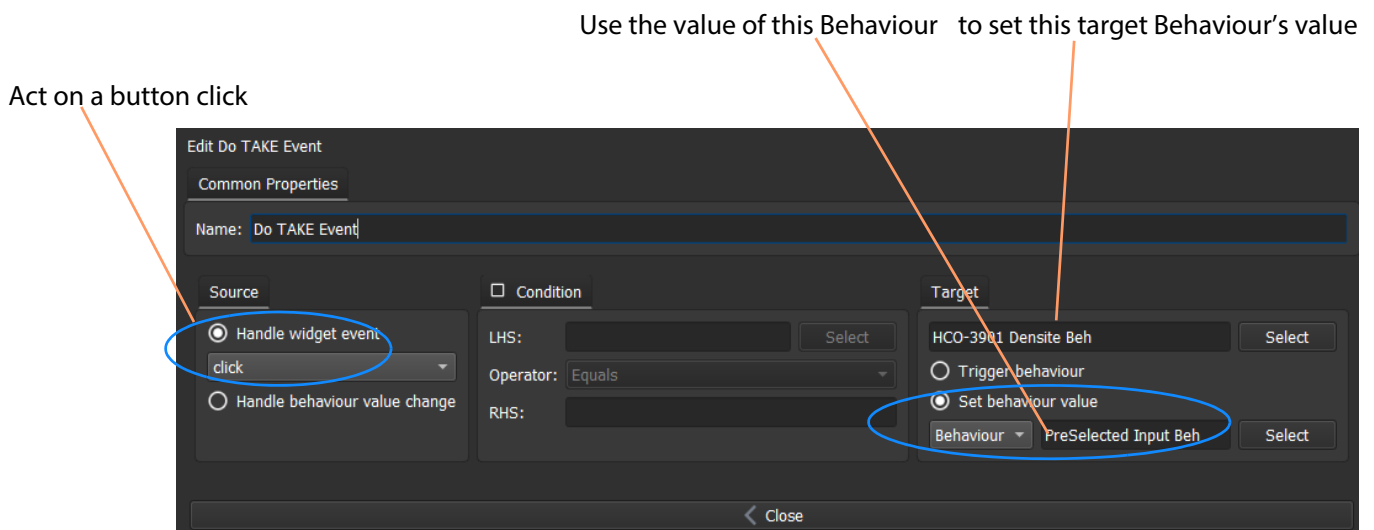

Fig. 8-42: TAKE Button Event Binding
- 5 Add an **Event** Binding for the TAKE button and configure it as shown in Figure 8-42 below.